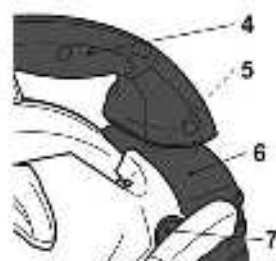

Fig. 8
The primer (5) is positioned underneath the main handle (4) and close to the air filter case (6) / choke (7). Use the primer for both cold start and warm start (Fig. 8).